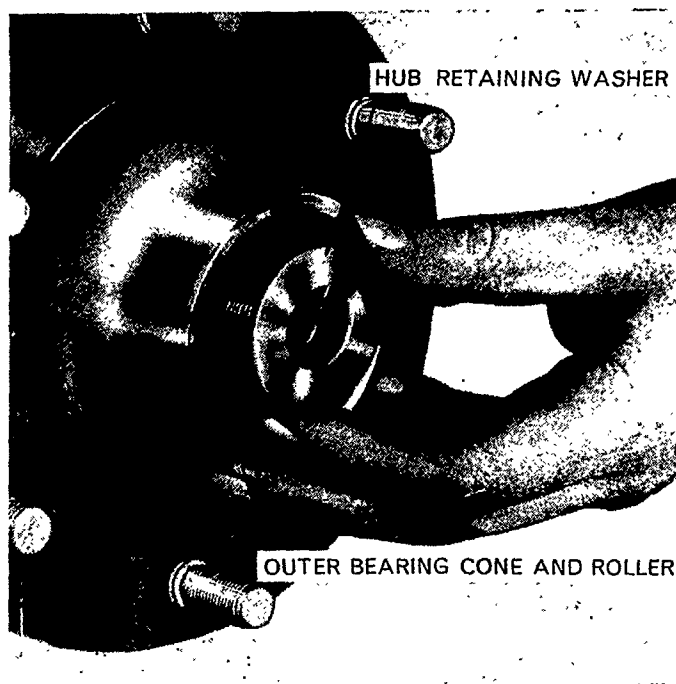

Figure 10
10. Install the hub retaining washer on the wheel spindle, locating the tab with the keyway in the spindle, Figure 10.